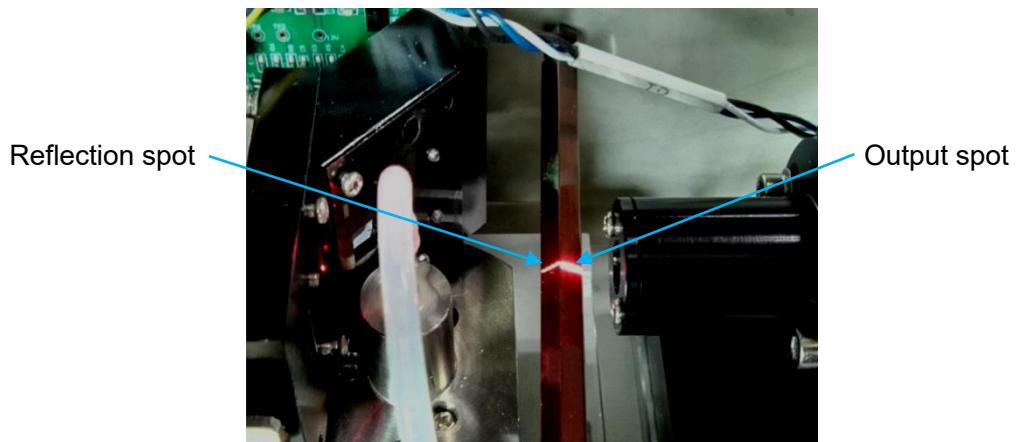

Figure 6-19 Output spot and reflection spot
3. Check if the output light is perpendicular to the flow cell. Place an inner hexagon spanner at the output exit. The output spot and the spot reflected by the flow cell shall appear simultaneously and strictly coincide with each other, as shown in Figure 6-19.